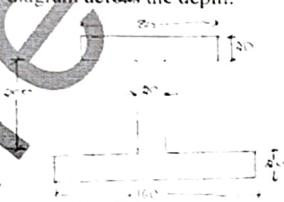

Fig Q6(b)
b. The unsymmetrical I - section shown in Fig.Q6(b) is subjected to a shear force of 40kN. Draw the shear stress variation diagram across the depth.